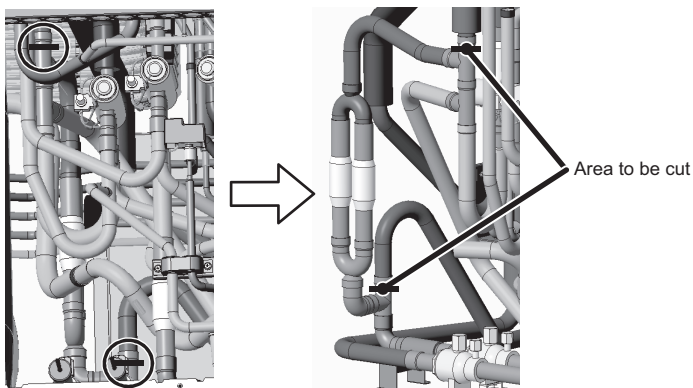

Figure 3
(2) Cut the pipe near the check valve in two areas where circled. (See Figure 3.)